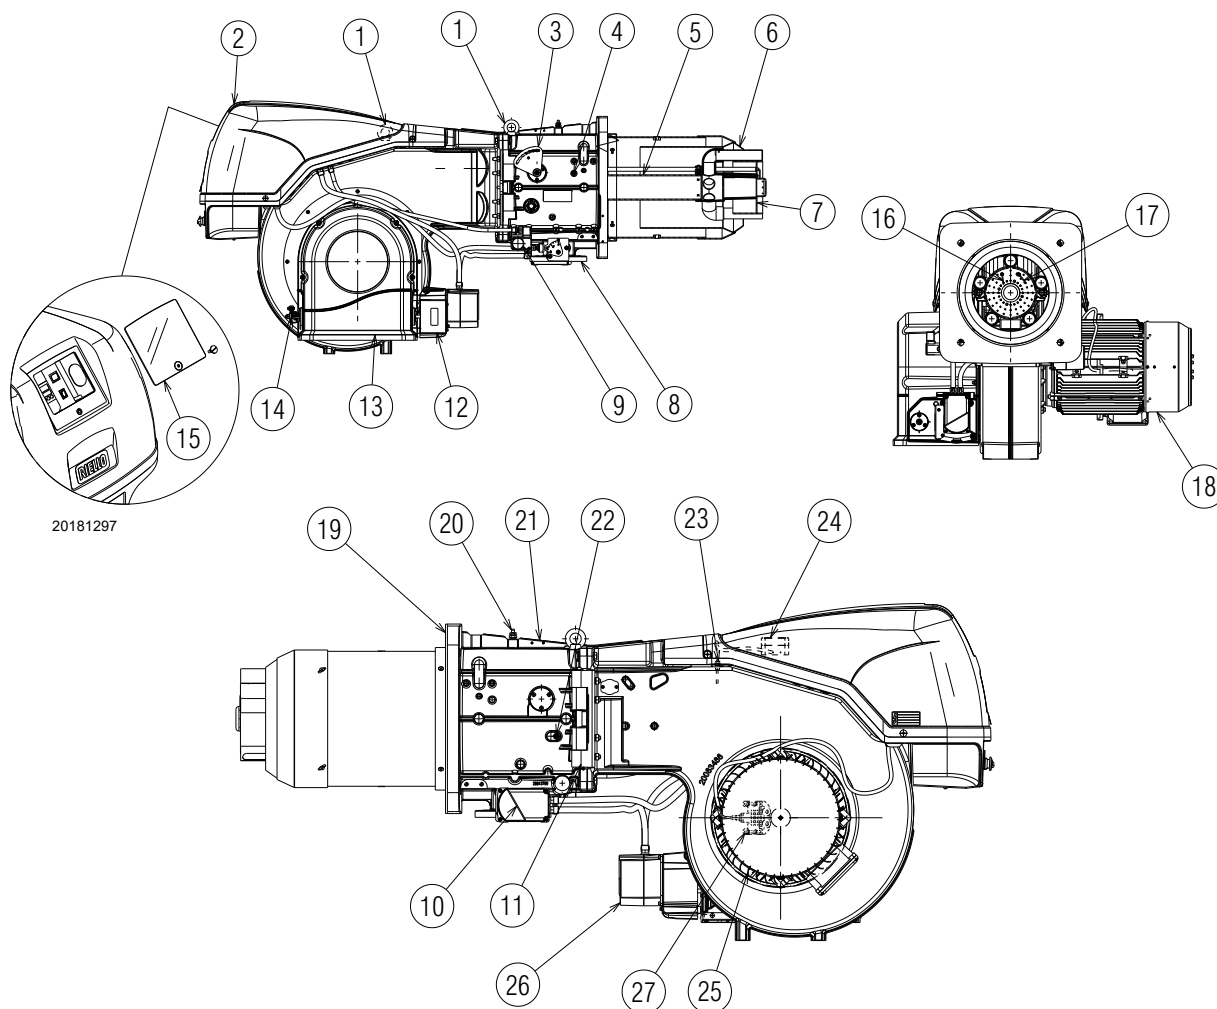

Fig. 4
(1) Reference conditions: Ambient temperature 20°C - Gas temperature 15°C - Barometric pressure 1013 mbar - Altitude 0 m a.s.l.
(2) Pressure at the test point 20(Fig. 4 on page 11) with zero pressure in the combustion chamber and at maximum burner output.
(3) Sound pressure measured in manufacturer's combustion laboratory, with burner operating on test boiler and at maximum rated output. The sound power is measured with the "Free Field" method, as per EN 15036, and according to an "Accuracy: Category 3" measuring accuracy, as set out in EN ISO 3746.